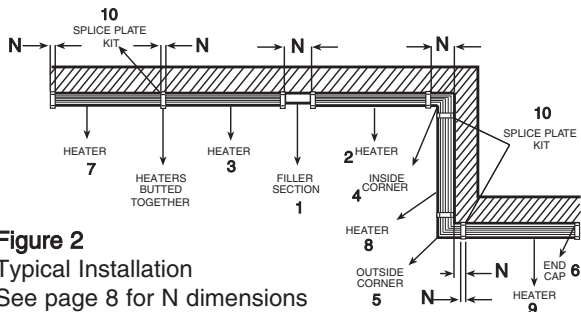

Figure 2
Check the heater section dimensions and the additional wall length required for telescoping accessories (Figure 2) before starting wall-to-wall type installation. Be certain all heaters and accessories needed are at hand and are of correct finish.
Note: Predrilled 1/4" diameter mounting holes are provided in each junction box. These holes may be used only when no slip-in accessory is to be installed in that end of the heater (such as when heater(3 and 7) are butted together as shown in Figure 2). Additional mounting holes will have to be drilled in the housing to support the weight of long-length heaters (6' and longer). Do not drill any additional holes in junction boxes.
10. Mount the heater (2, Figure 2) on the wall using screws, bolts or anchors (by installer) to suit the wall construction.
11. Telescope the heater housing (3) over the filler section (1) by the desired amount and mount the housing to the wall.
12. Telescope the heater housing (8) over the corner section (4) by the desired amount and mount the housing to the wall.